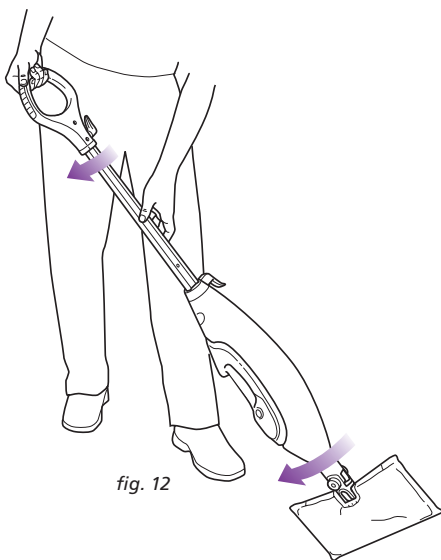

fig. 12
- 5 When one side of the cleaning pad gets dirty, just flip the mop and you can quickly start using the other side. (fig. 12)